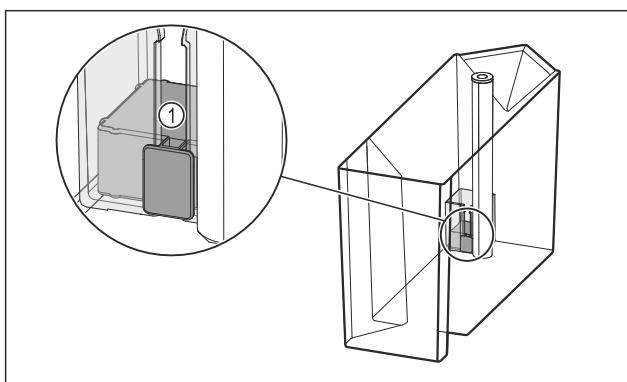

Fig. 96
- ▶ Check whether the float Fig. 96 (1) is jammed.